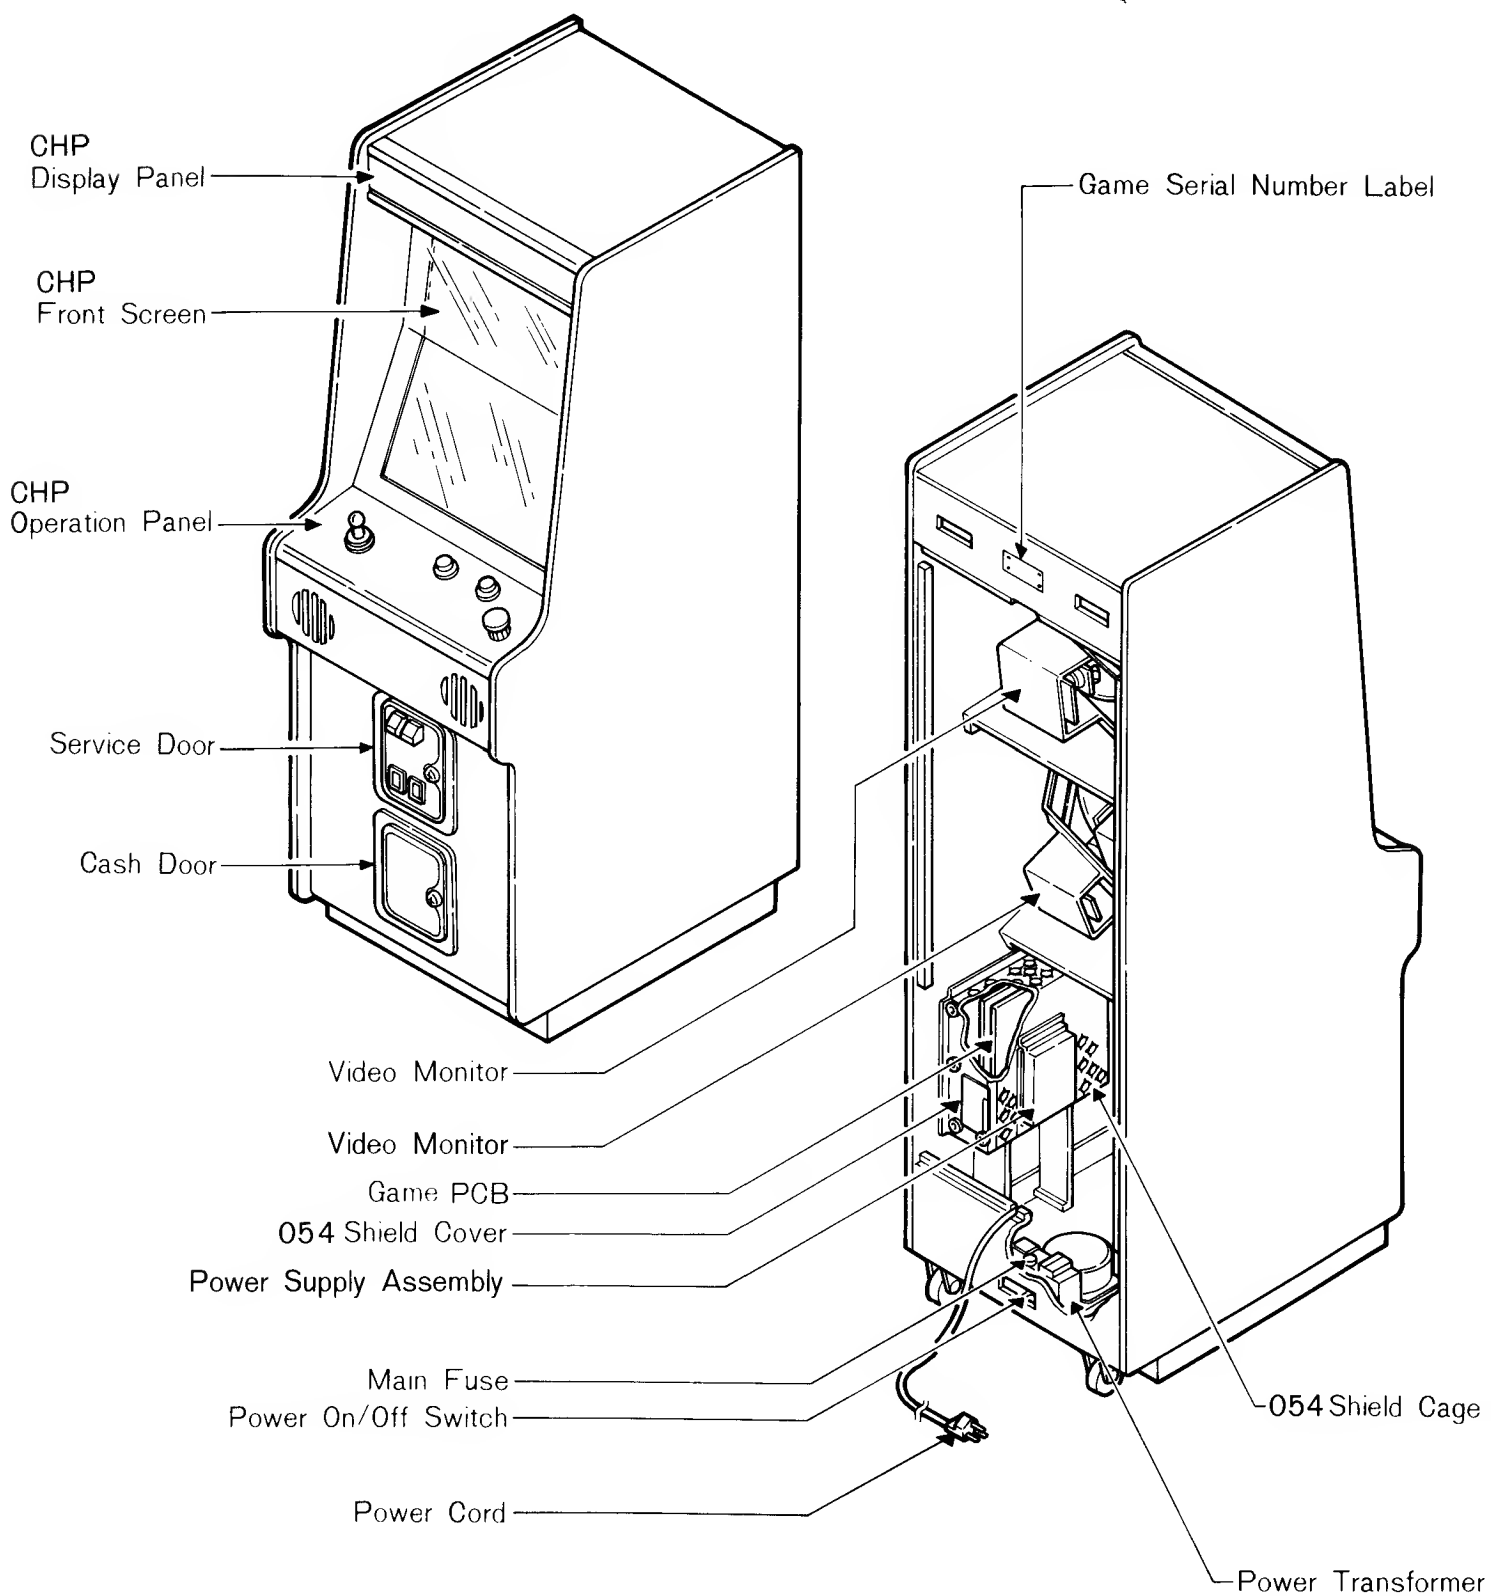

Fig. 1 Game Overview
A Power On/Off Switch is located in the rear of the game at the bottom center of the cabinet. See Fig. 1.
(1) Main Fuse	U.S. : 5A 125V (90~120V) Europe : 3A 250V (200~240V) See Fig. 1 and 3